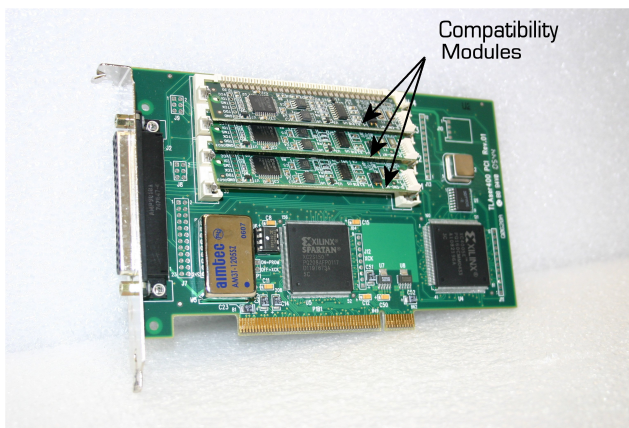
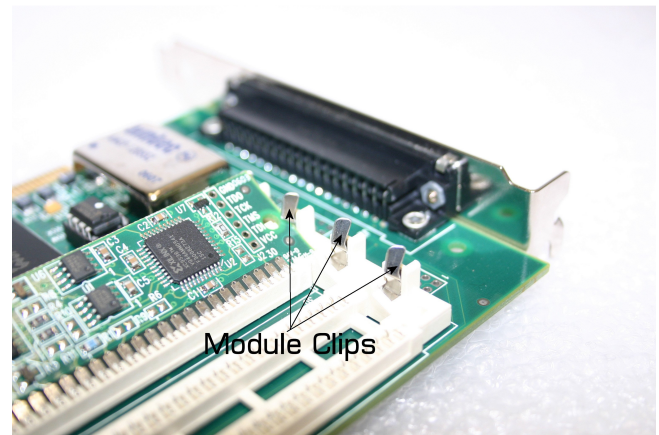

Figure 1. TLAser 400 card
Figure 2. Module Clips
**Step 1. Checking the compatibility modules** – The TLAser400 (figure 1) should come with all compatibility modules pre-installed. Before proceeding, make sure that the compatibility modules are fully seated in their slots and restrained on both sides by the metal retaining clips (figure 2).